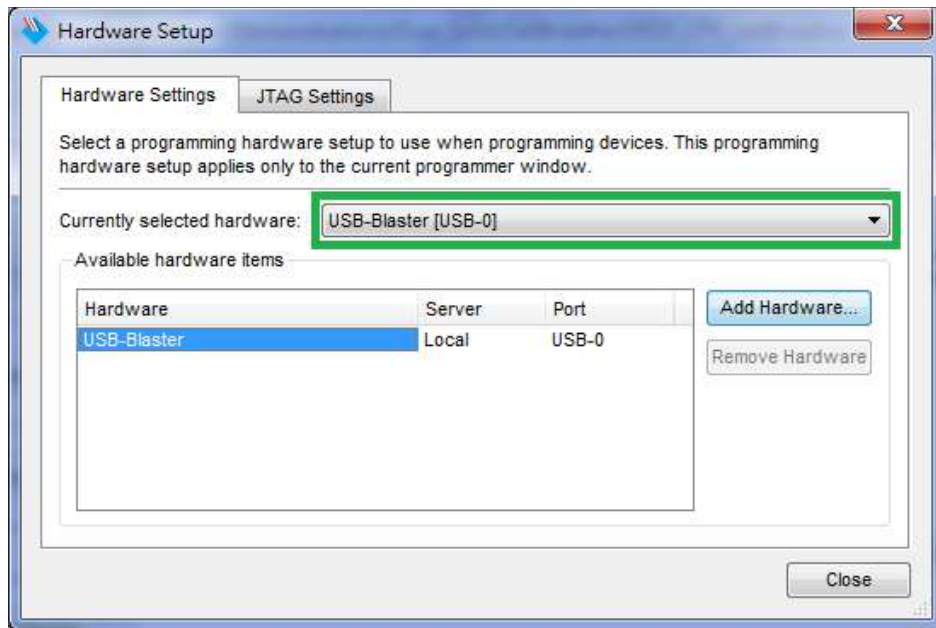

Figure 6-16 Hardware setup window
2. Click **Hardware Setup** and then select the **USB-Blaster** as shown in **Figure 6-16**.